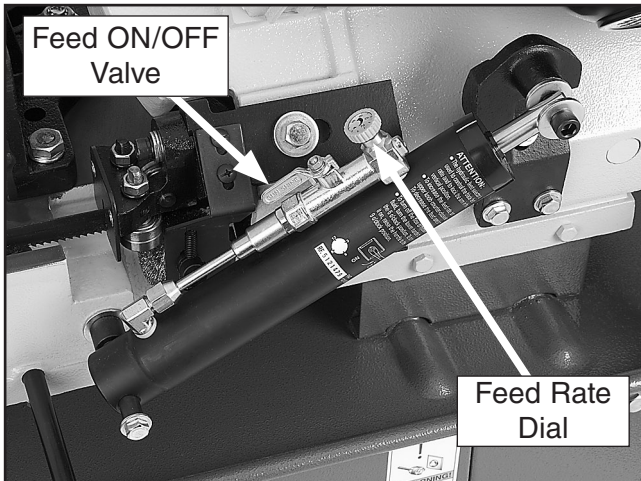

Figure 20. Feed ON/OFF valve and feed rate dial.
6. Close the feed ON/OFF valve to lock the bow in position (see **Figure 20**).
5. Raise the bandsaw and close the feed ON/OFF valve to keep the saw in place (see **Figure 20**).